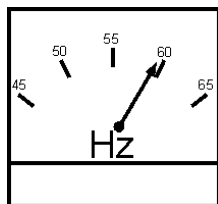

Figure 48. Frequency Meter (Hz)
11. The generator's frequency meter (Figure 48) displays the 60 cycle output frequency in **HERTZ**.